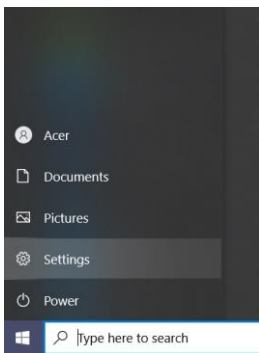

Fig.1
2. From the Windows menu select Settings (Fig.1)